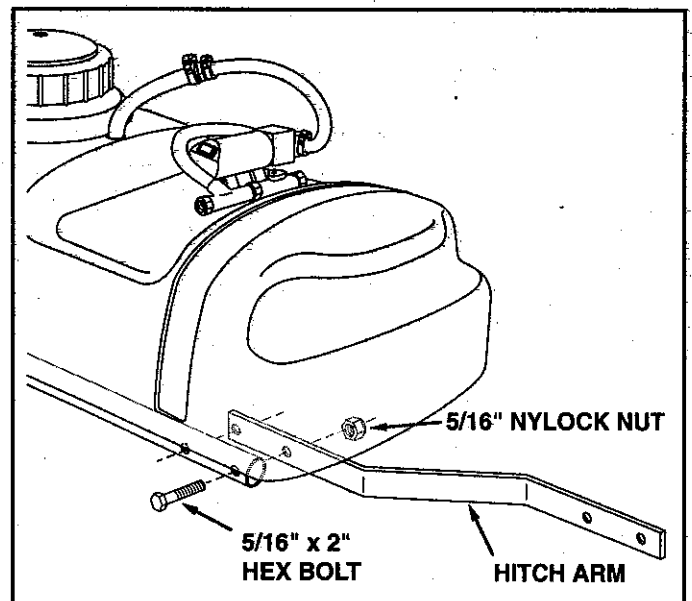
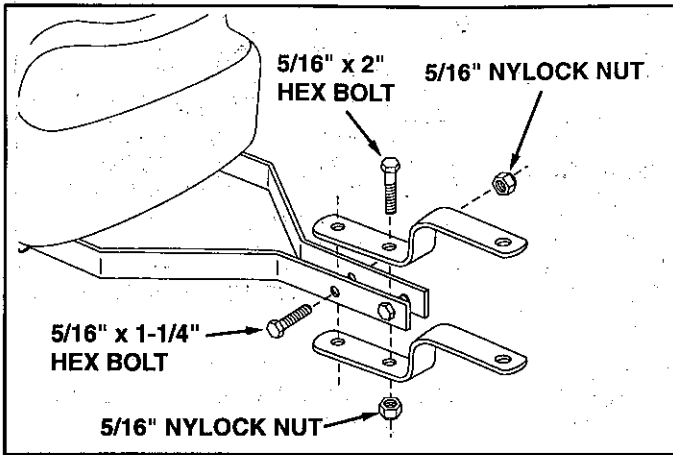

FIGURE 2
FIGURE 3
- Assemble a hitch arm to the inside of a frame tube underneath the tank. Use two 5/16" x 2" hex bolts and 5/16" nylock nuts as shown in figure 2. Do not tighten yet. Repeat for other side.
- Fasten the ends of the hitch arms together using two 5/16" x 1-1/4" hex bolts and 5/16" nylock nuts. **Do not tighten yet.** See figure 3.
- Assemble the hitch brackets to the hitch arms using two 5/16" x 2" hex bolts and 5/16" nylock nuts. Position each bolt behind one of the cross bolts in the hitch arms. **Do not tighten yet.** See figure 3.
- At this time **tighten all bolts** starting with the bolts in figure 2, then the bolts in figure 3.